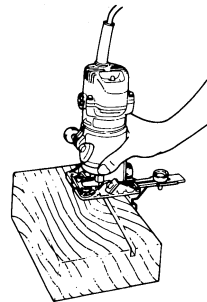

Fig. 11
- (3) When cutting refer to term "Feeding direction" in "How to use". (Fig. 11)